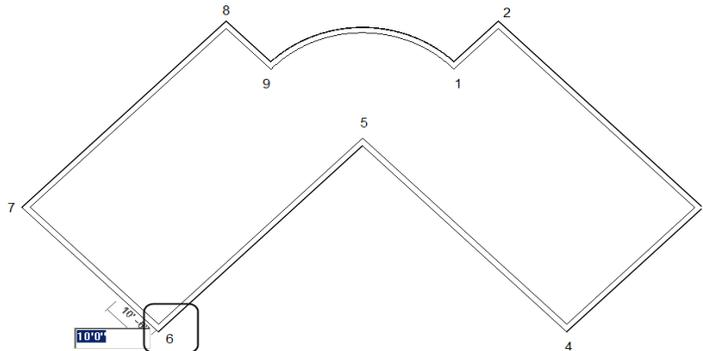

*Figure 3-68* Selecting the interior wall type from the **Properties** palette
- b. Invoke the **Wall: Architectural** tool and select the required wall type, refer to Figure 3-68.
1. Select the required option from the **Type Selector** drop-down list in the **Properties** palette, as shown in Figure 3-68.